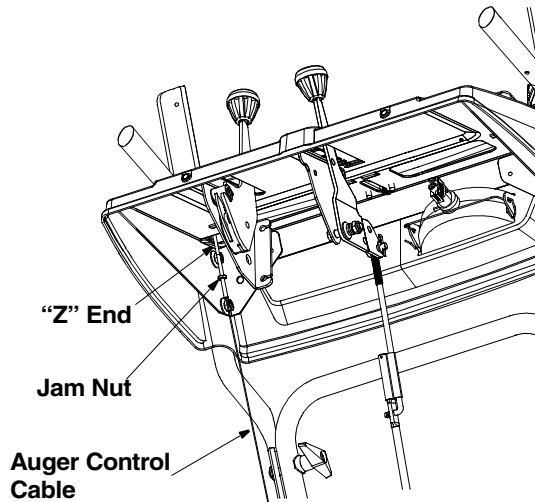

Figure 6
- To check the adjustment of the auger drive clutch, push forward on the left hand clutch grip (depress the rubber bumper). There should be slack in the cable. See Figure 6.